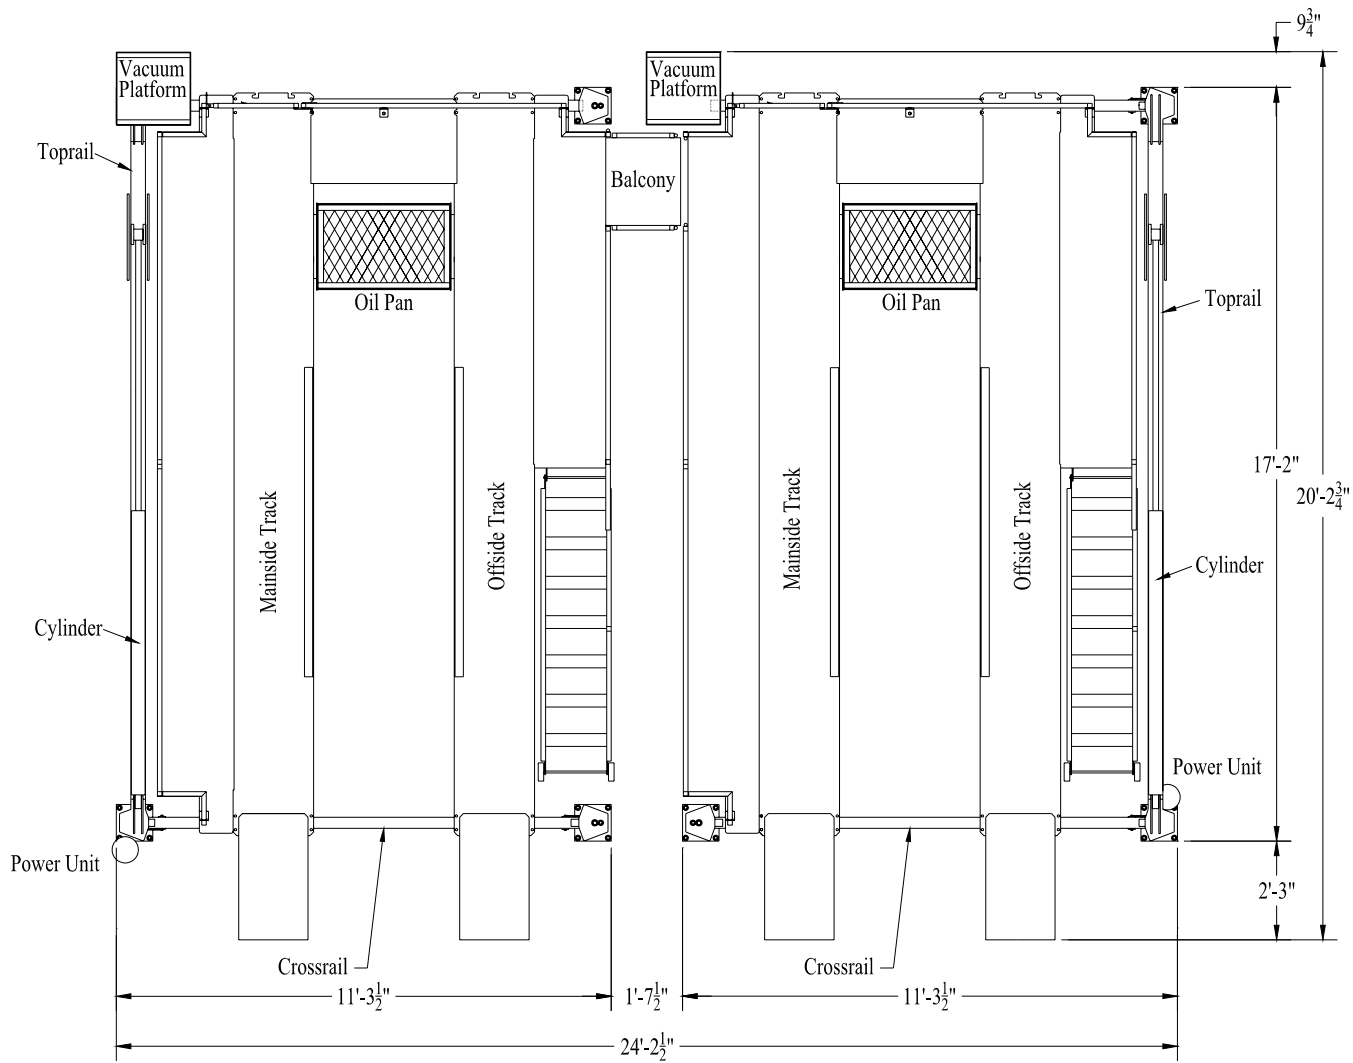
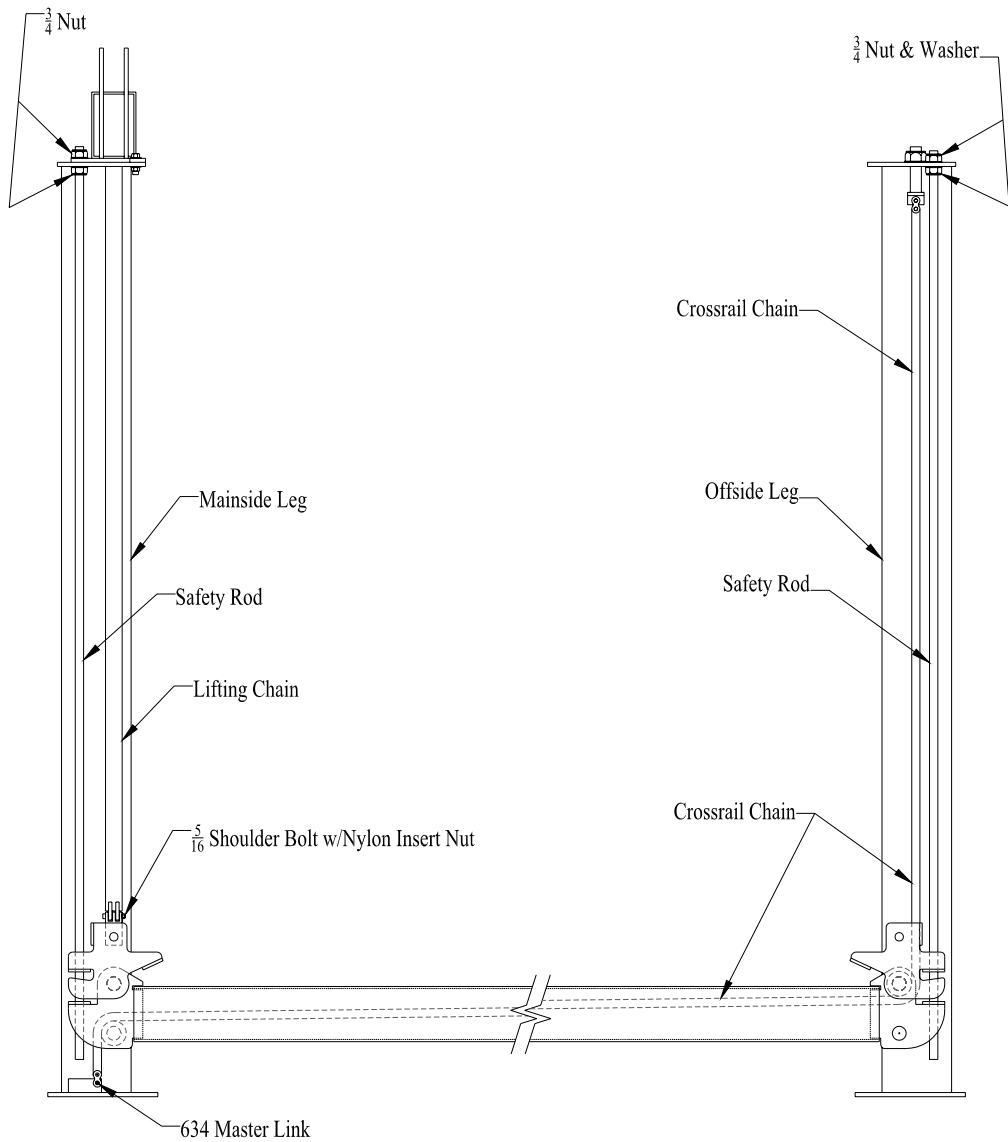
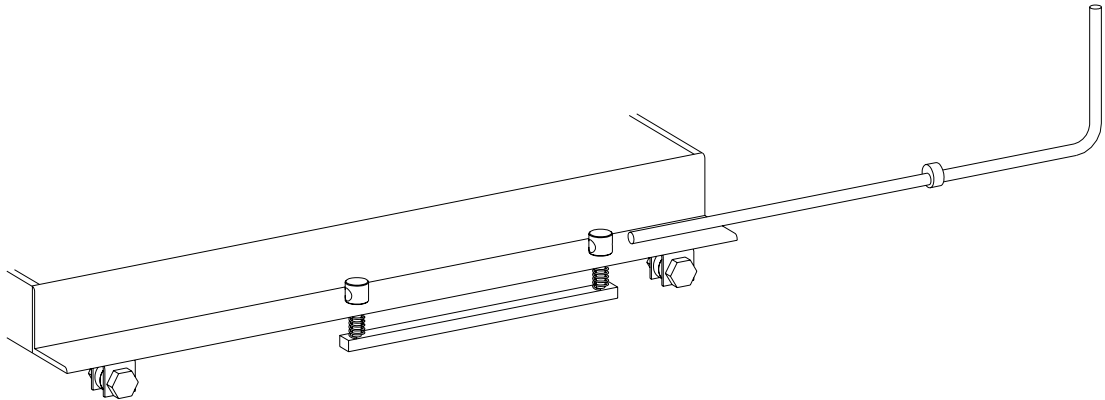

Figure 1
Figure 5
Figure 11
- Determine the location for the lift(s) installation. Figures 1 and 2 give the overall dimensions of the lift(s) installation, including the drive on ramps. The area must be level and there must be free access to load and unload the vehicles.
2. If you are installing a Double Lube lift, refer again to Figure 1 to understand the positioning of the components of the lift. The centerlines of the two sets of runways are on a 12' spacing. They should correspond approximately with the centerlines of the two bays.
5. Refer again to Figures 1 and 2 to determine where to locate the ends of the leg foot rectangle with respect to walls and other obstacles. Mark on lines A-B points 1 and 2 to establish the ends of the leg foot rectangle. From points 1 and 2 measure diagonally 20', 6-1/2" to the opposite parallel line to determine points 3 and 4. Draw a chalk line between points 1 and 4 and points 2 and 3. The four lines locate the four corners of the leg foot rectangle.
7. Refer to Figure 1. If there is good access to both sides of the installation, the best procedure is to place the tracks on blocks on the floor in their final positions and then stand up the mainside leg/top rail assemblies from each side. If one side of the installation is blocked, the mainside leg/top rail assembly for that side should be positioned first, the tracks positioned on blocks second, and then the second top rail erected. This manual will proceed under the assumption that there is good access to both sides of the installation.
- 14. Position crossrails in their approximate locations as shown in Figure 1. The lifting chain connector must be at the mainside or top rail location. See Figure 5.
- 15. Use the pull wire to pull the equalization chain thru the crossrail tube. The chain runs over the roller at the mainside end and under the roller at the offside end. See Figure 5. Repeat for the other crossrail.
- 16. Attach the crossrail chain to the mainside leg chain anchor with a 634 chain master link. Repeat for the other crossrail. See Figure 5 & 6.
36. Proceed with the installation as described above for the left hand installation. When the time comes to position the front left (offside) leg, refer to Figure 1 and Figure 11, Vacuum Platform Mounting. Install the Offside Vacuum Platform under the nuts for the safety rod and the cross chain anchor.